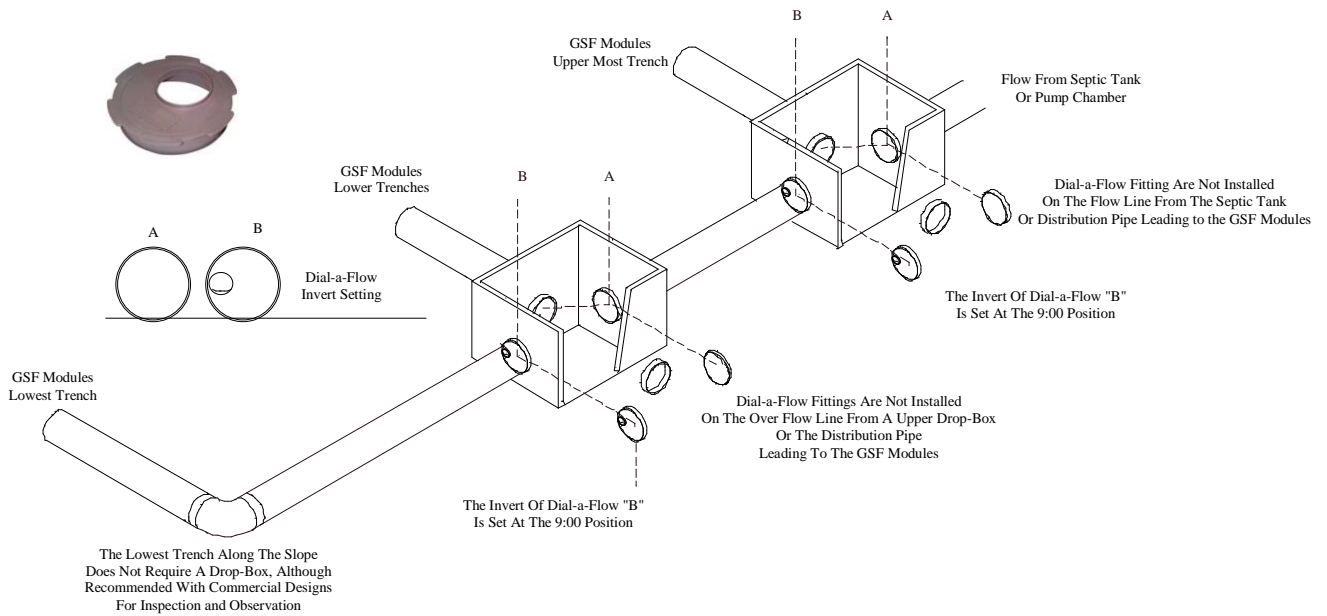

FIGURE 18
10. Septic tank effluent flows to a drop-box placed at the beginning of the upper most trenches. One pipe from this drop-box is plumbed along the length of the upper row of GSF modules. The second pipe is an overflow pipe and is connected to the next lowest drop-box. Dial-a-Flow adapters are placed on this over flow pipe inside the drop-boxes. The invert of the Dial-a-Flow opening must be rotated so that it is above the invert height of the pipe loading the GSF modules. This procedure will ensure the upper trenches are utilized prior to flowing to the next down slope trench. This process is duplicated until reaching the lowest trench in the sloped system which does not require Dial-a-Flow adapters or an over flow pipe, but is strongly recommended and can be used as an observation port. Refer to Figure 18 for drop-box layout drawing.